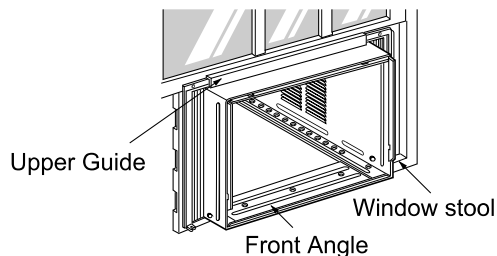

Fig. 1
1. Open the window. Mark a line on center of the window stool. Carefully place the cabinet on the window stool and align the center mark on the bottom front with the center line marked in the window stool. (Fig. 1)